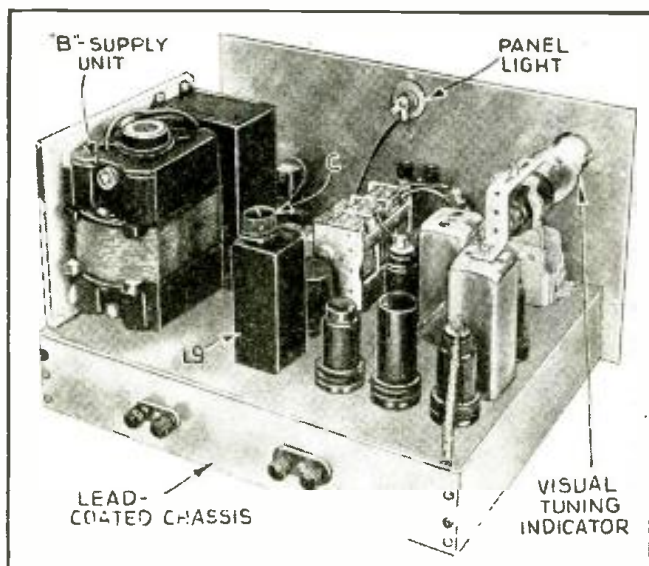

Fig. 3. Rear view showing placement of parts and power pack.
The graphical construction Fig. 3, a and b, shows how the average D.C. value of  $\mu E_g$  and  $E_p$  is obtained. The readings on the plate current meter therefore depend on (1) plate resistance, (2) amplification factor, and (3) transconductance.